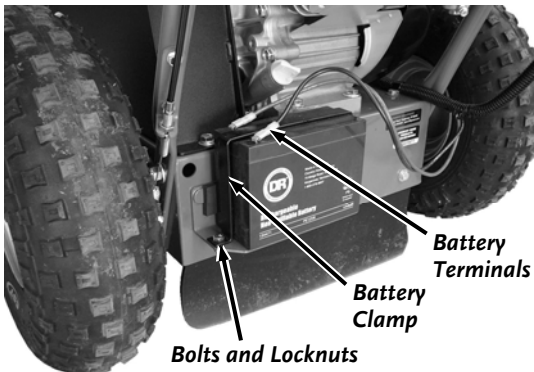

Figure 55
1. Disconnect the Battery Terminals (**Figure 55**).